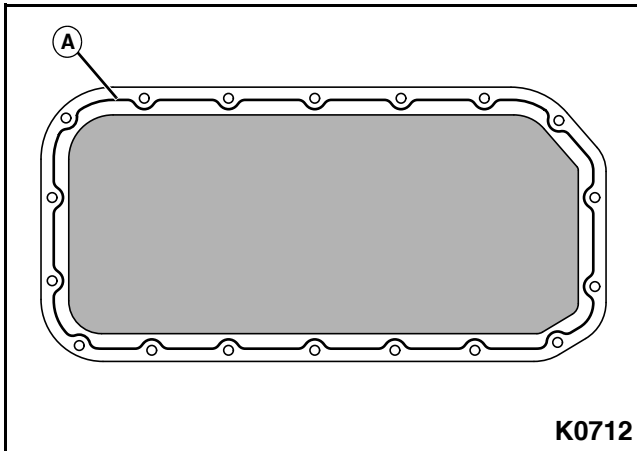

Figure 3-103
1. Install new sealant material (A) to oil pan in a 3 mm (0.12 in.) bead. Overlap starting and ending points of application. **See Figure 3-103.**